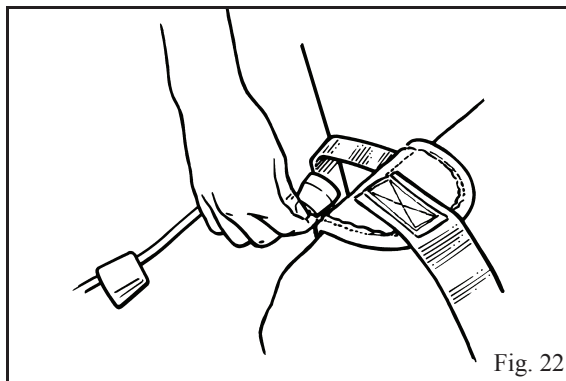

Fig. 22
1. Identify the attachment strap on each leg section of the sling and attach the right hand attachment cord to the left strap, repeat for the other side. (See Fig 22 and Fig. 17 for attachment of the cords)